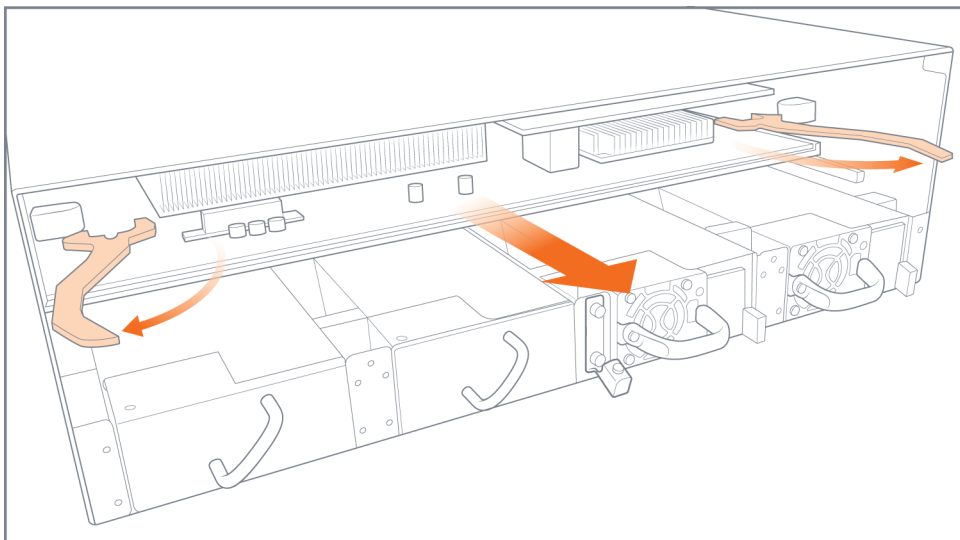

Figure 4-18: Control Card Ejector Handles
4. Swing both ejector handles outward as shown in Figure 4-18 on page 85.